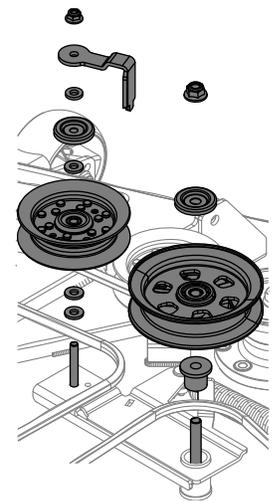

Figure 48
4. Remove the two idler pulley assemblies by removing the flange lock nuts at the top of the assemblies, then removing the assemblies from the idler arm. See Figure 48.